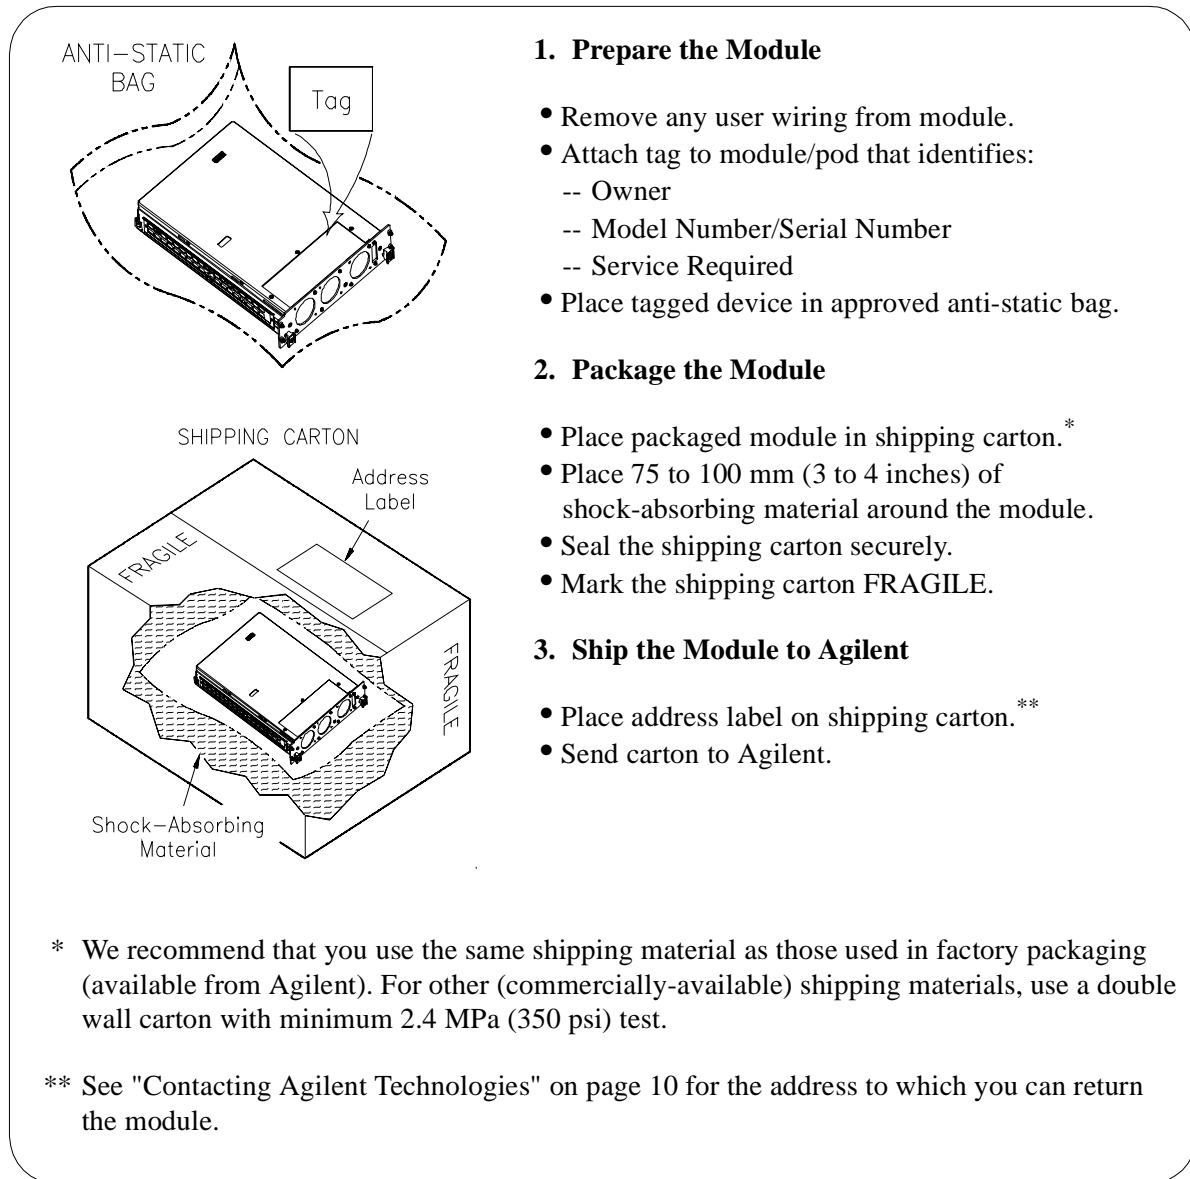

Figure 1-2. Packaging/Shipping Guidelines
5. If any of the tests do not pass, refer to page 36 in *Chapter 3* for troubleshooting. If the module needs to be shipped to Agilent for service or repair, see Figure 1-2 for instructions on repackaging the module for shipment.
If the instrument is to be shipped to Agilent for service or repair, follow the procedures in Figure 1-2.